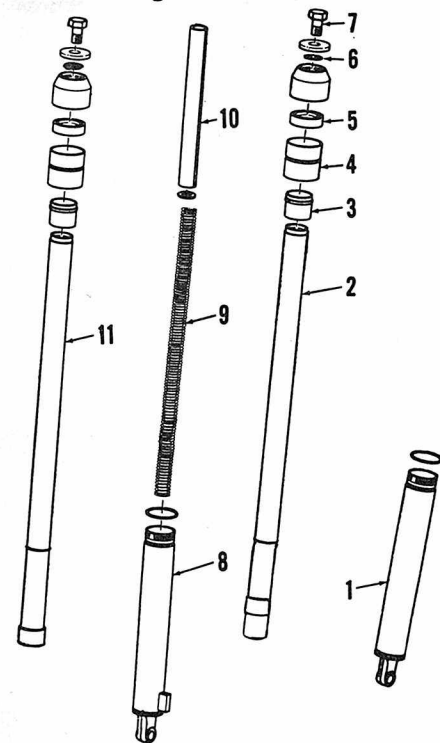

Fig. Y12-5—Exploded view of front suspension units used on the JT-1.
**SUSPENSION.** Front suspension units are not identical. Right unit has an internal spring (9—Fig. Y12-5), spacer (10) and contains 97cc of oil. Unit on left side has no spring and contains 120cc of oil. Oil used should be SAE 10W/30 motor oil.